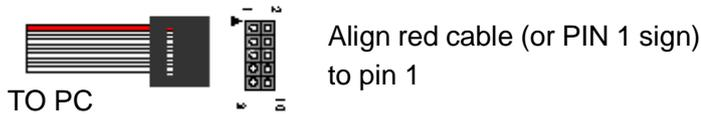

Fig. 33 ByteBlaster II (or USB Blaster) connection
3. Connect the ByteBlaster II 10-pin female plug to CN5 (Card address: C.4, 4.8) (Fig. 33).